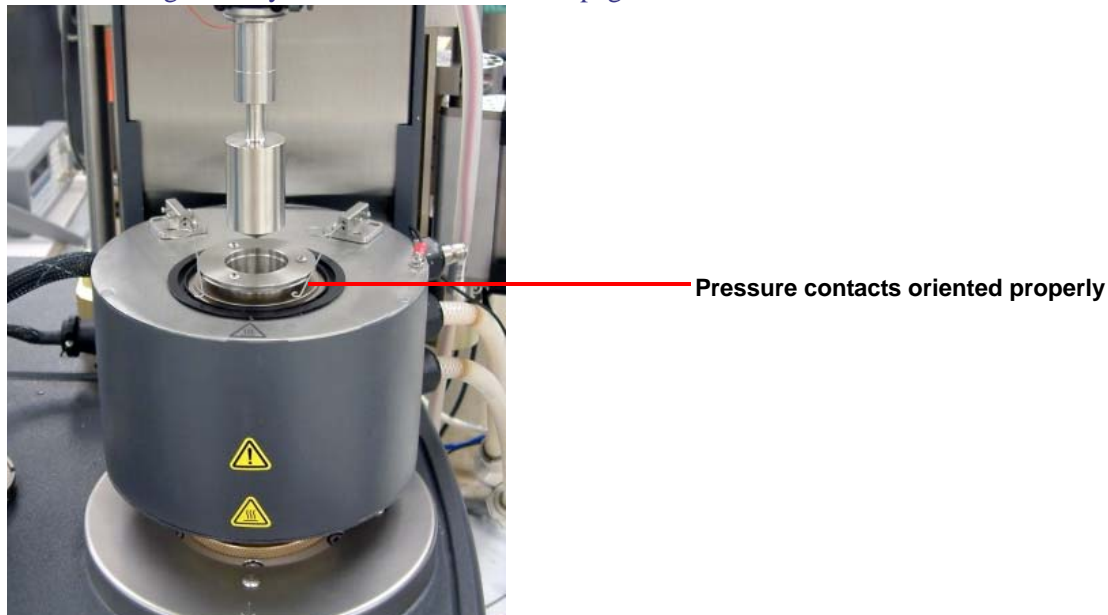

Figure 30 Typical ER APS configuration.
- 9 Position the APS top plate pressure contacts so that they both rest in the groove of the ER APS cup (shown below) or in the groove of the quick change plate. See Figure 30 for correct pressure contact orientation.